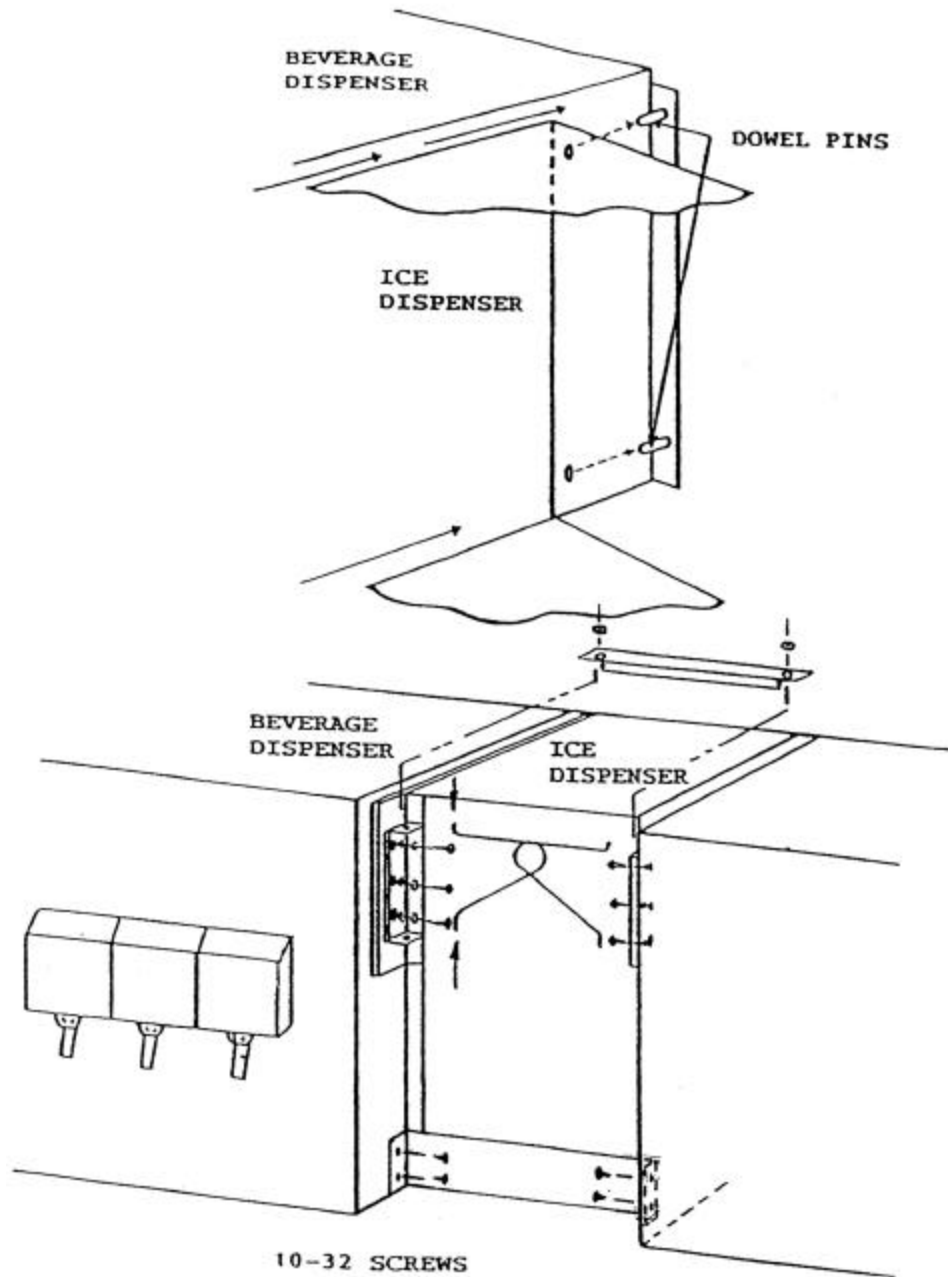

FIGURE 1
8. Set the *M15* ice dispenser on the counter top in the center position, making sure that the cabinet is placed on the silastic seal. Gently slide it to the rear engaging the dowel pins on the back panels of the beverage units (two pins on each beverage unit as shown in Figure 1). The 3" (76 mm) wide slot in the bottom of the ice dispenser should align with the corresponding hole in the counter top.